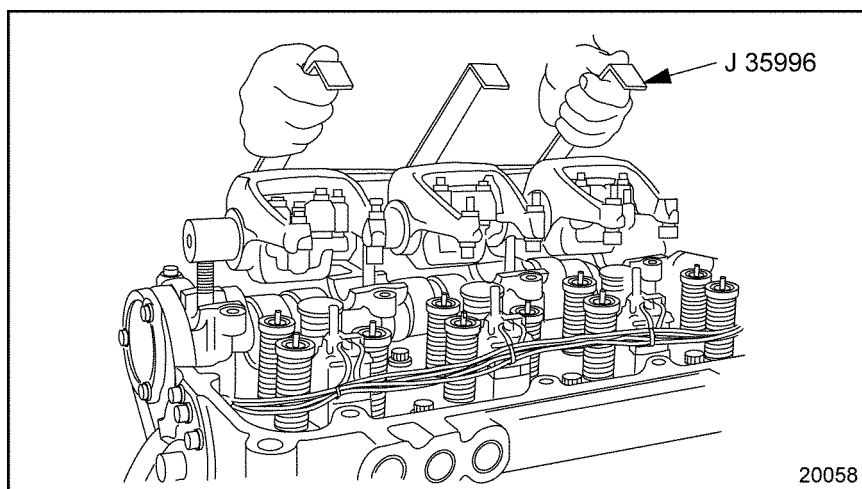

Figure 6-2 Rocker Arm/Shaft Assembly Removal/Installation
5. Remove the three rocker shaft mounting bolts and nut from the front rocker shaft assembly. Using removal tool (J-35996-A), see Figure 6-2, lift the assembly straight up and off of the head and place in a clean area on the bench.